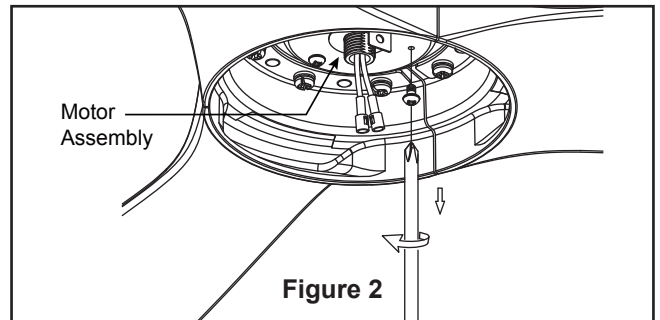

Figure 2
2. Remove one of the three screws in the support bracket at the bottom of the motor assembly. Retain the screw for later and slightly loosen the remaining two screws. (Figure 2)